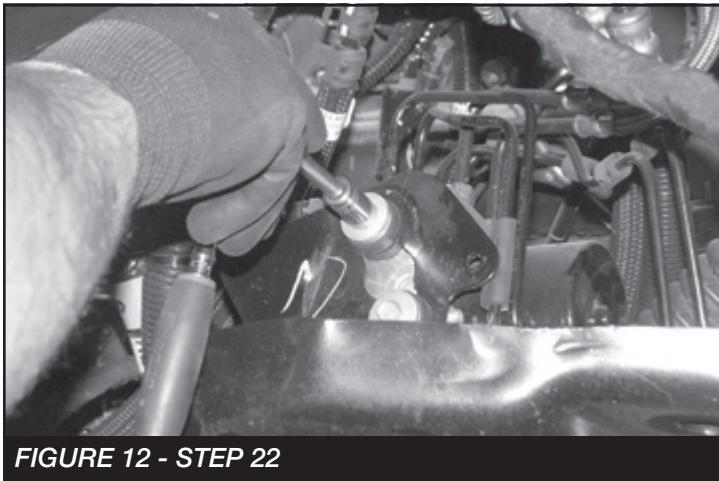

FIGURE 12 - STEP 22
22. Remove the bolts that attach the module to the mounting bracket on the top of the bucket. Retain hardware. **SEE FIGURE 12**